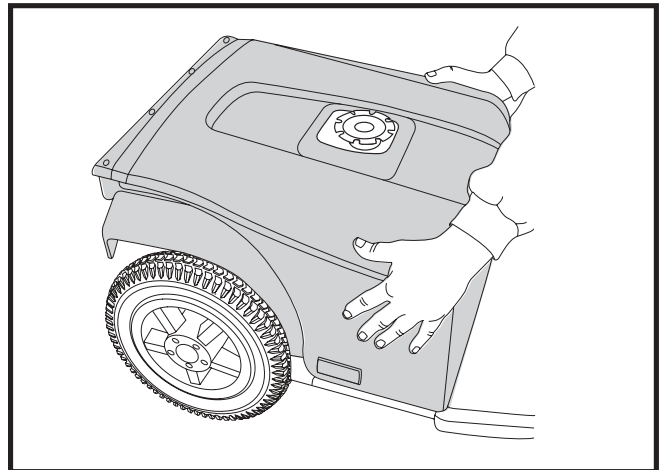

Figure 17. Rear Shroud Removal
4. Pull the shroud towards the tiller then lift up to remove it. See figure 17.